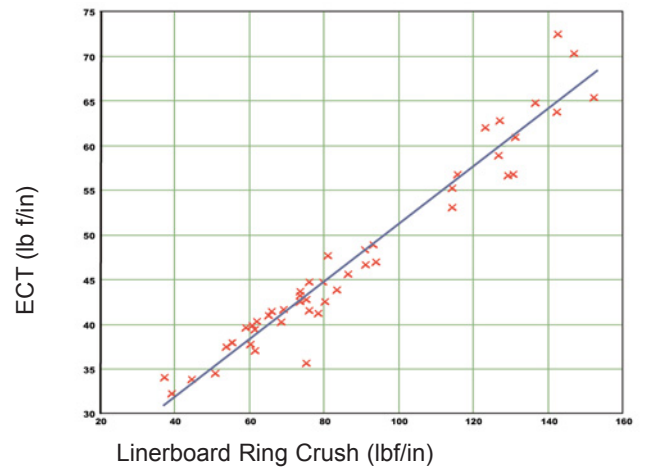

Figure 4) ECT vs Ring Crush
correlation to ECT than STFI (**fig. 4**). Best, however, was STFI in combination with bending stiffness by applying equation (3) for predicting ECT: